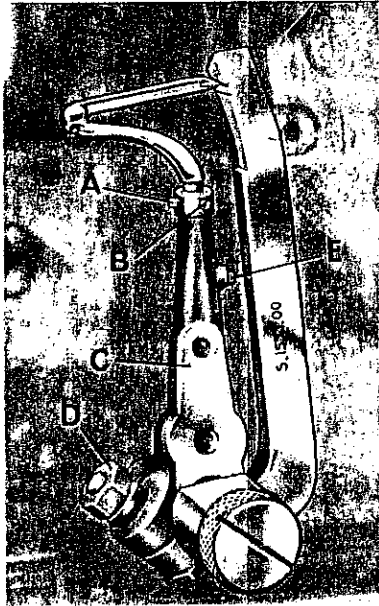

fig. 4
- S. 1665.00 for all operations except No. 4 (fig. 4)
- S. 1555.00 for operation No. 4 (fig. 4)
### 4. Setting lower looper (fig. 4).
Firmly tighten screw 'E' (fig. 4).